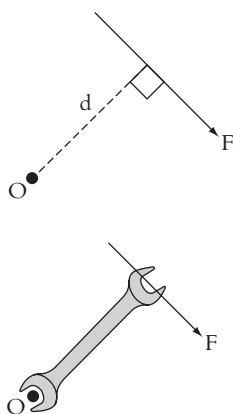

Figure 5.11 Turning moment
Figure 5.11 shows a force (F) applied to a spanner; this will cause a clockwise moment. However, it is not just the force applied that will affect the size of the turning moment, but the distance as well. The greater the distance (d), which is the perpendicular distance, the greater the turning moment.